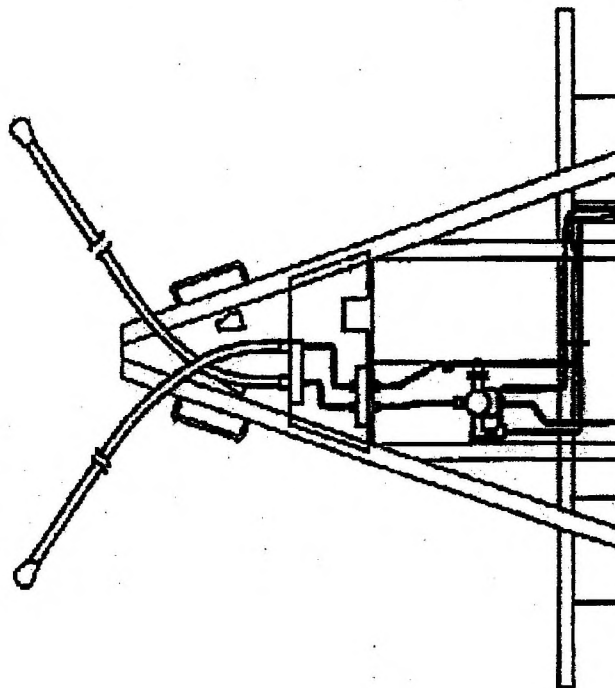

Fig 2 Location of PLV and pipe work
9.3 Identify the Pressure Limiting Valve (PLV) and pipe work under the floor plate (See Fig 2 and 5.)